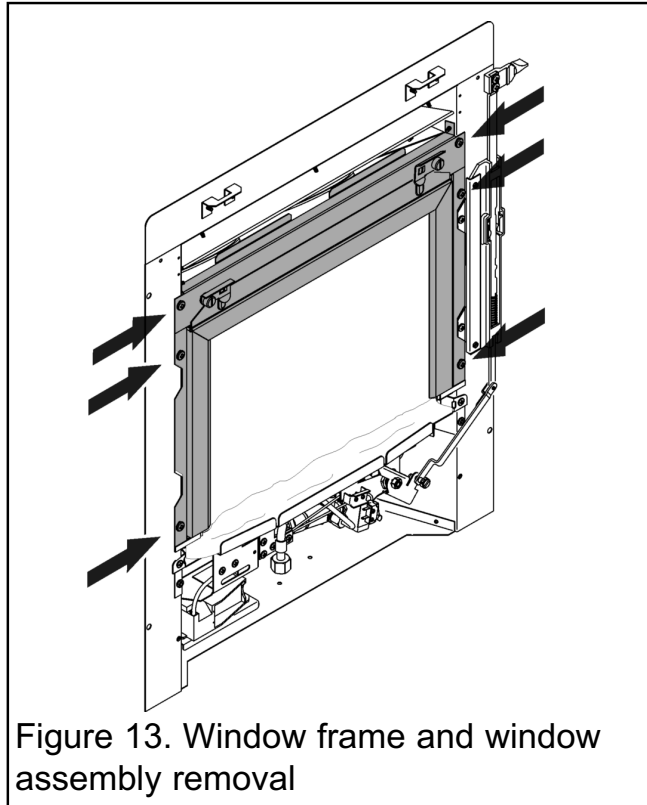

Figure 13. Window frame and window assembly removal
2. Unscrew and remove the six screws that secure the window mounting frame and window assembly. Remove and place away from the work area (See figure 13).